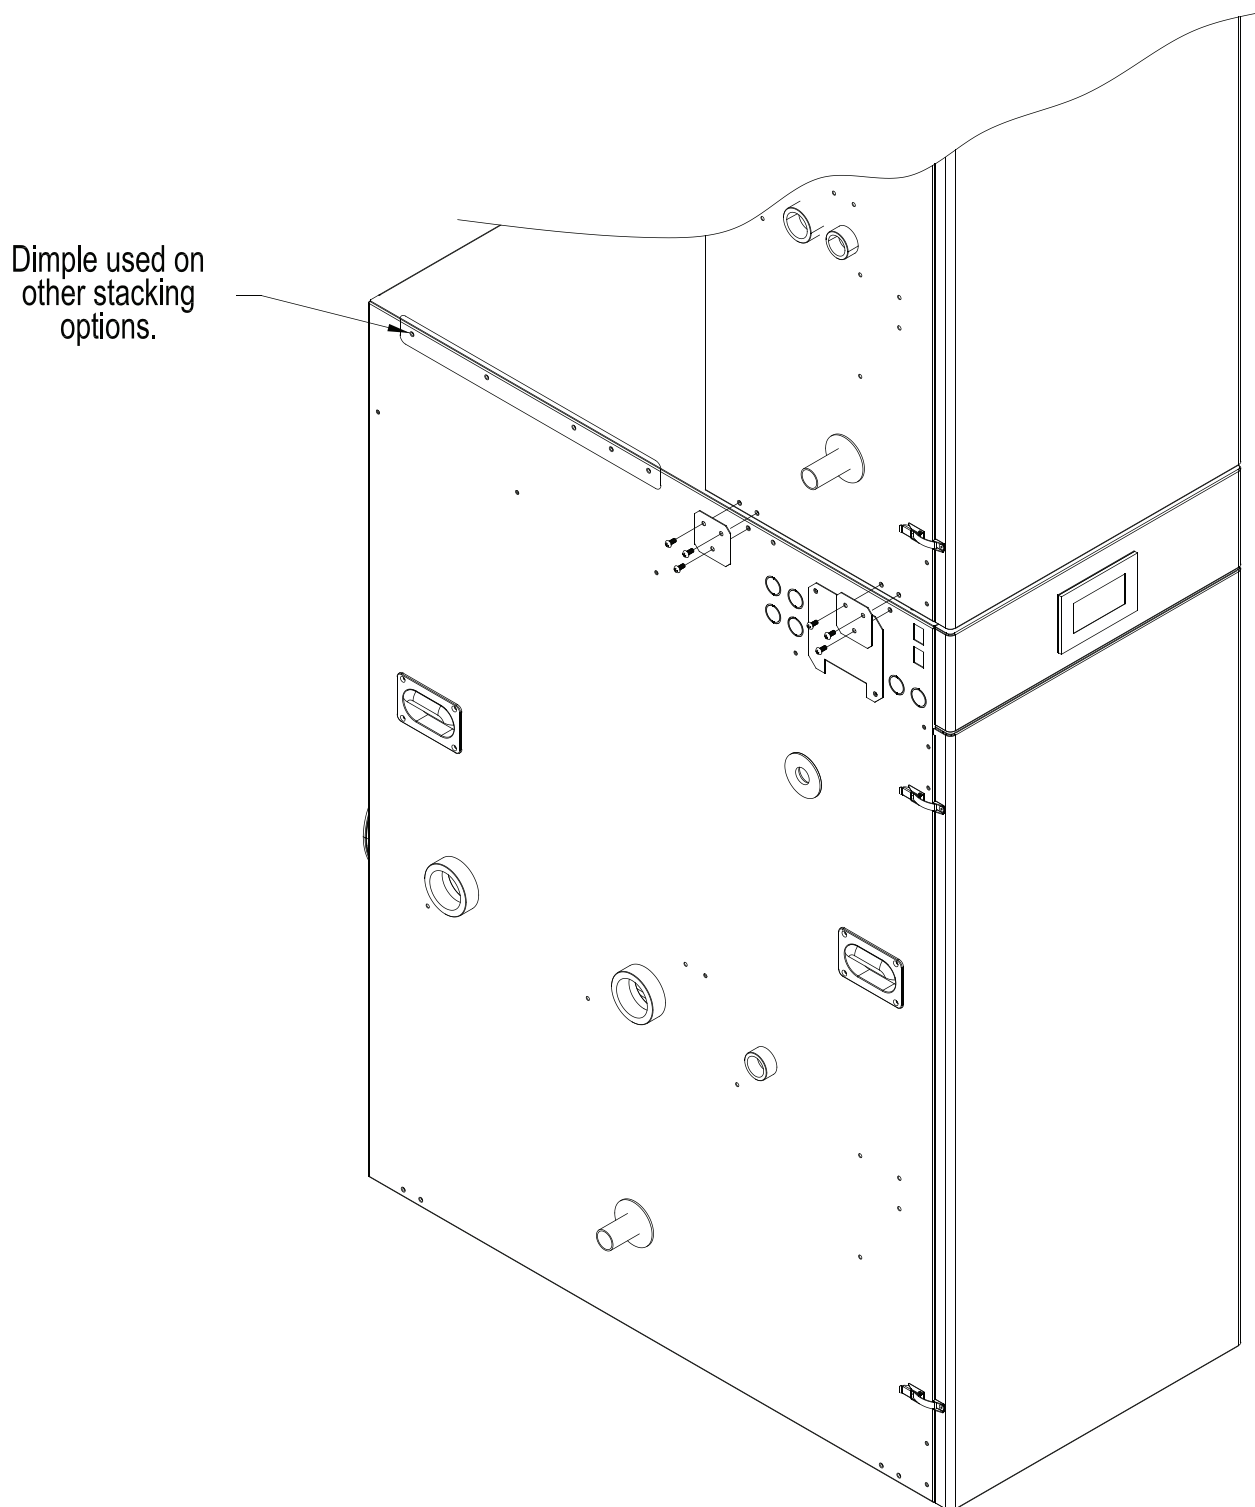

Figure 5: Boiler Stacking
- b. Each Phantom X boiler is factory packaged with 2 stacking boiler attachment brackets (P/N 101679-01) and the bracket mounting hardware [six (6) self-drilling hex washer head plated #8 x ½” long screws, P/N 80860743]. Locate and remove the brackets and the hardware. The stacking boiler attachment bracket has three 7/32” diameter holes punched in a triangular pattern. See Figure 5 “Boiler Stacking”.